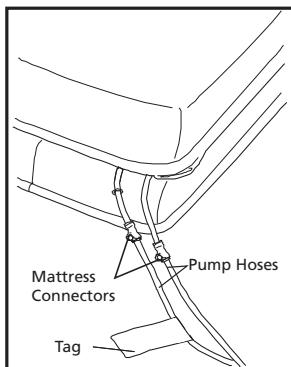

Figure 1 Mattress Hose Connector
2. Attach pump hoses to mattress, as shown with (Figure 1) below: